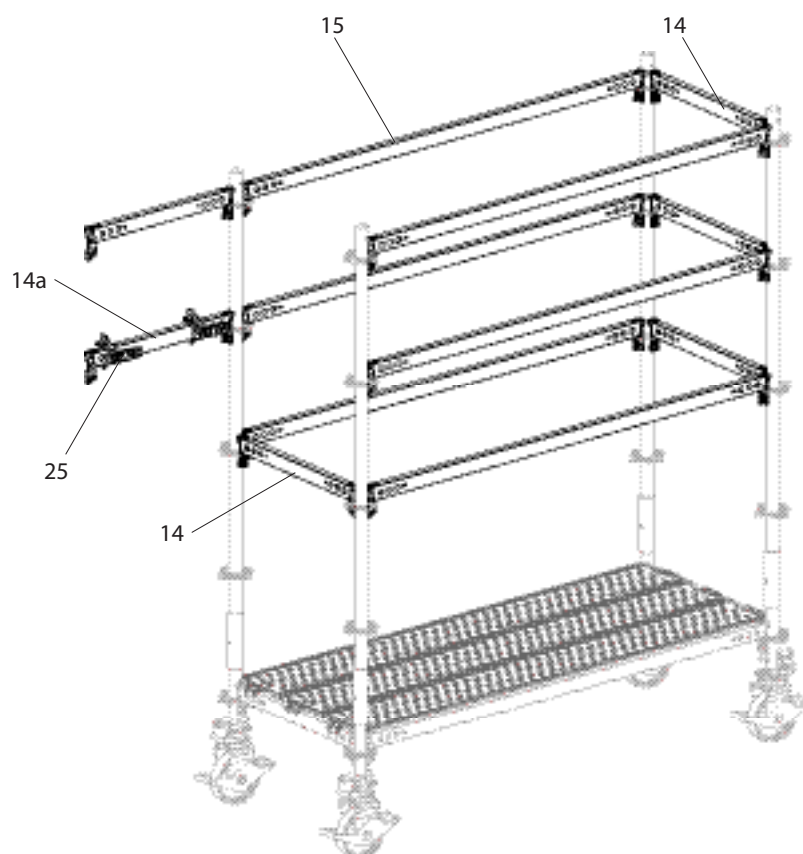

Fig. A4.04
2. Connect Top Standards UVH-2 200 to Horizontal Ledgers UH-2 200 (15) and UH-2 75 (14). Secure the wedges.
3. Pre-mount 2x Ladder Connectors UAM-S (25) on Horizontal Ledger UH-2 75 (14a) to reflect the distance between the ladder rails.
4. Fit the pre-assembled Horizontal Ledger UH-2 75 (14a). (Fig. A4.04)